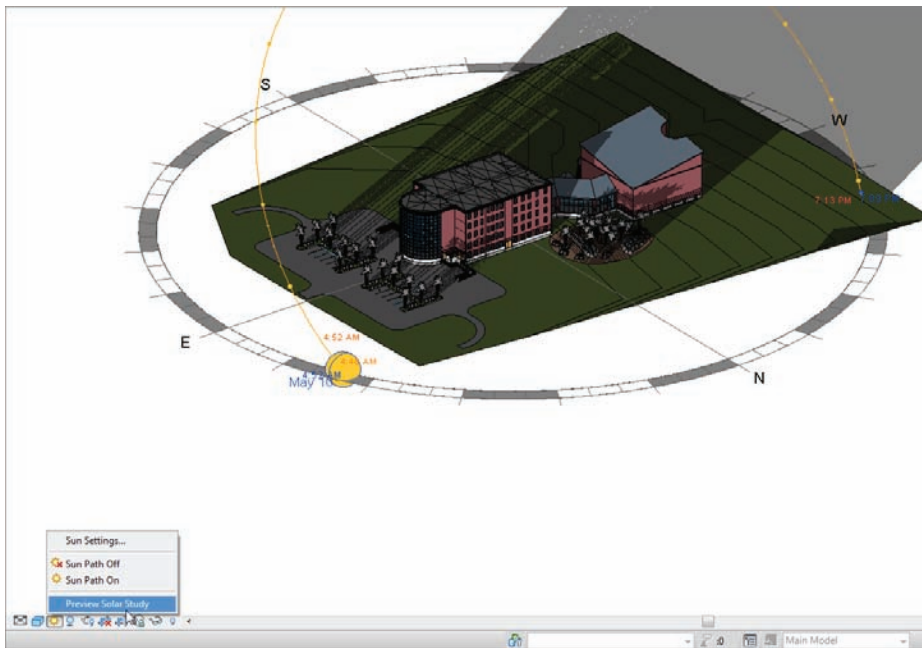

FIGURE 19.25 Previewing the solar study
11. On the View Control bar, click the Shadows button, and then select Preview Solar Study, as shown in Figure 19.25. (You can spin the view as shown in Figure 19.25 to check out the different sunlight effects on the building.)